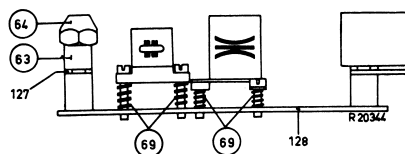

Fig. 8
The recording/playback head must be so adjusted that the tape guide of the head is at the same level as the tape guides pos. 63. At the same time the air gap should be in vertical position, fig. 8.